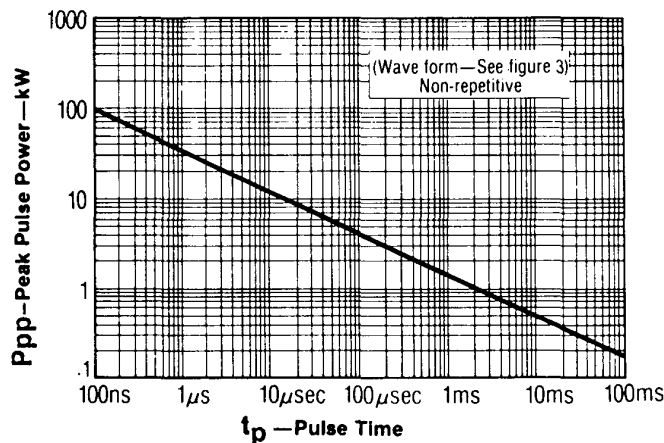

FIGURE 1
- 1500 Watts for 10/1000 μ s with repetition rate of 0.01% or less* at lead temperature (T_L) 25°C (See Figs. 1, 2, & 4)